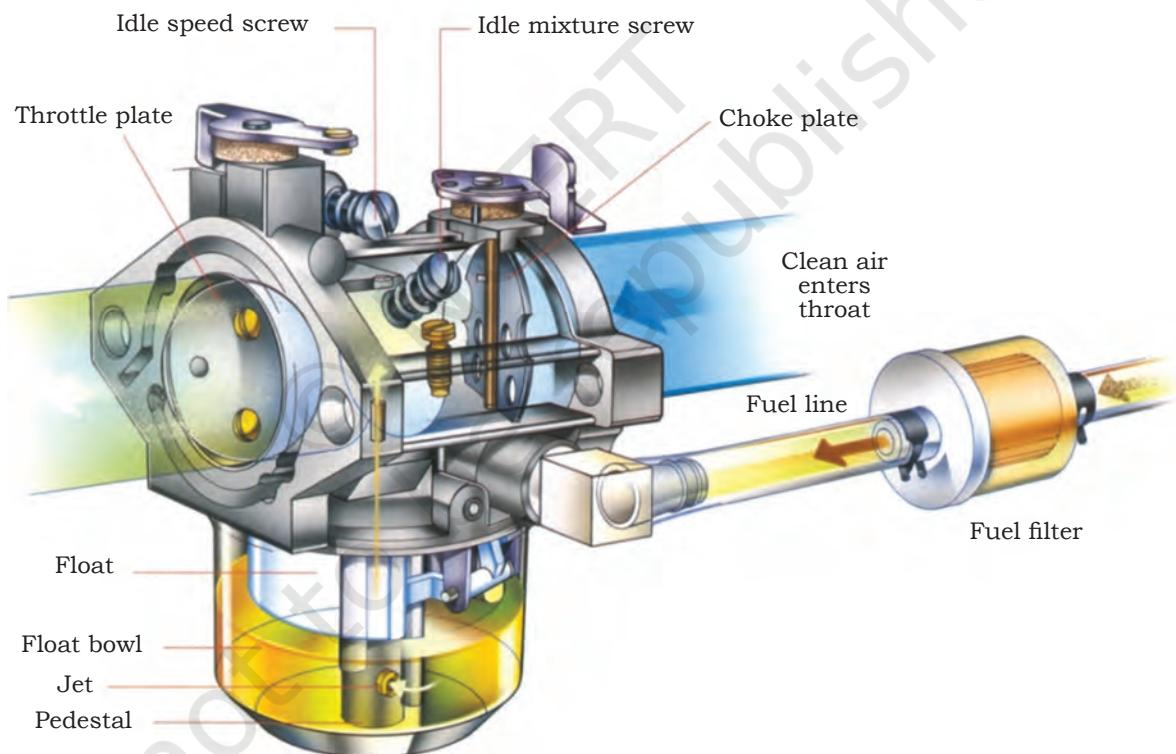

Fig 3.17: Carburettor
20. Carburettor: The major function of the carburetor (Fig. 3.17) is to supply carburised fuel as per speed and the engine load. In petrol engines the carburettor is mounted on the induction pipe or on the induction manifold. The quantity of fuel air mixture in appropriate ratio is controlled by the throttle valve and the movements of the throttle valve are connected to the accelerator.